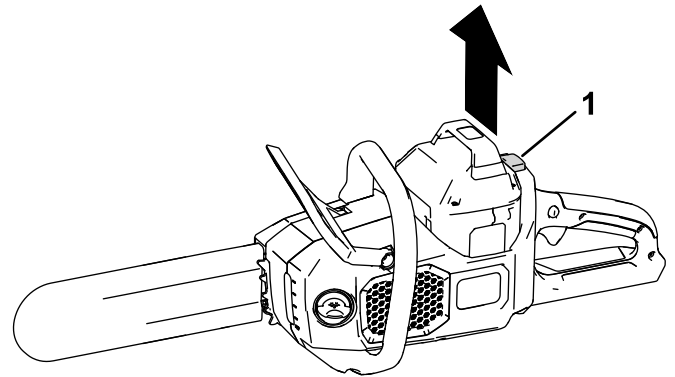

**Figure 24**
2. Align the tongue of the battery pack with the battery cavity in the chain saw (Figure 24).